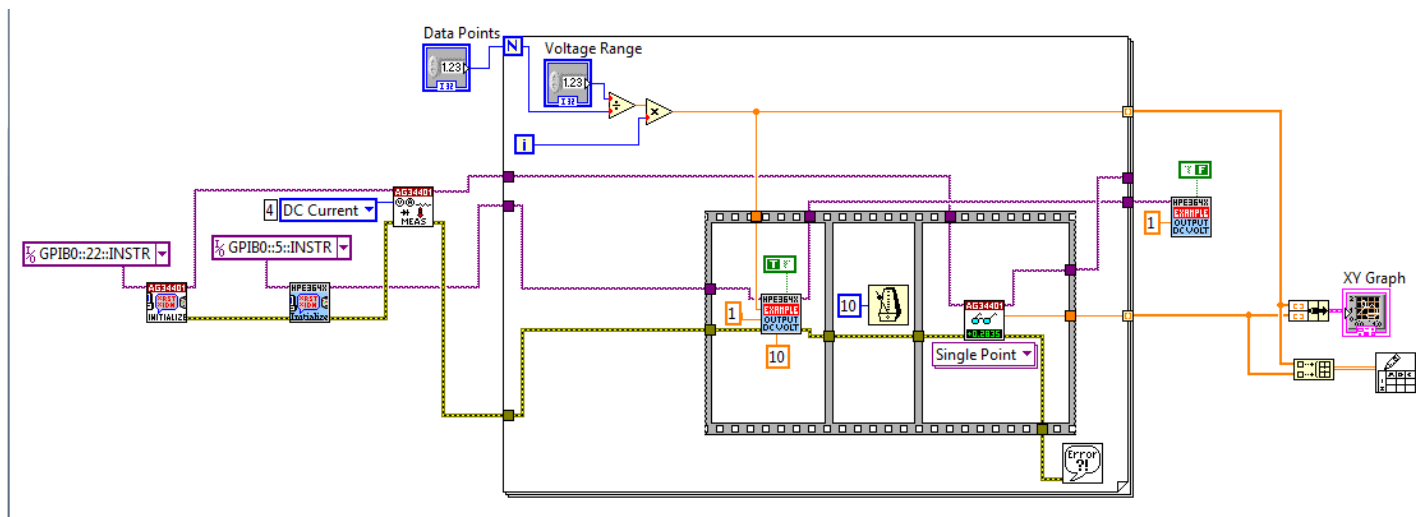

Figure 13. Final Rear Panel Example Layout
25. At this point your program should look like that shown in Figure 13, and is ready for testing. If the run arrow in the menu bar at the top of the screen is broken and dark, this means there is a problem with your VI. Double click the arrow to determine the errors and correct them.